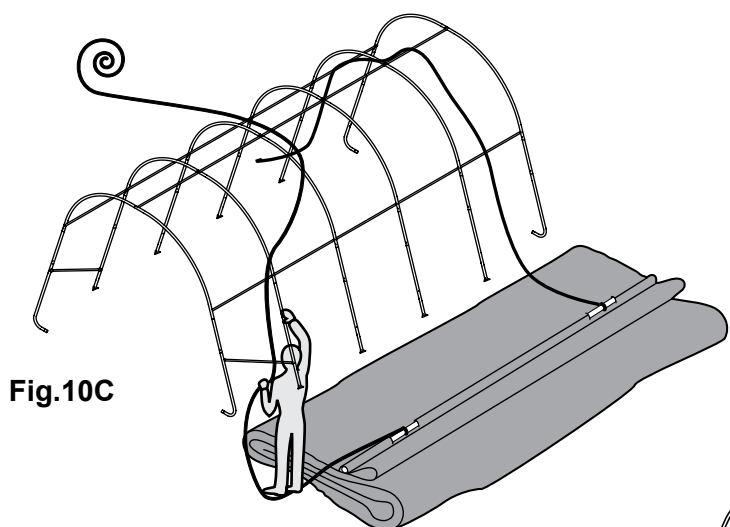

Fig.10C
**C.** Tie the rope on each of the exposed pipes and throw the other end of the rope over the frame. Fig. 10C.